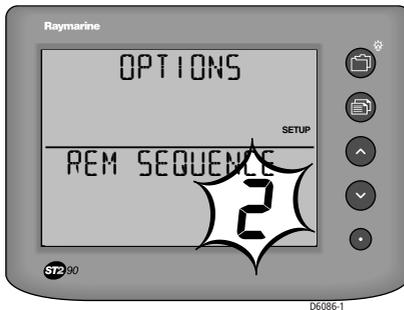

Figure 3-12: Set remote sequence
3. Press the [List] button to move to the REM SEQUENCE page (see *Figure 3-12*).